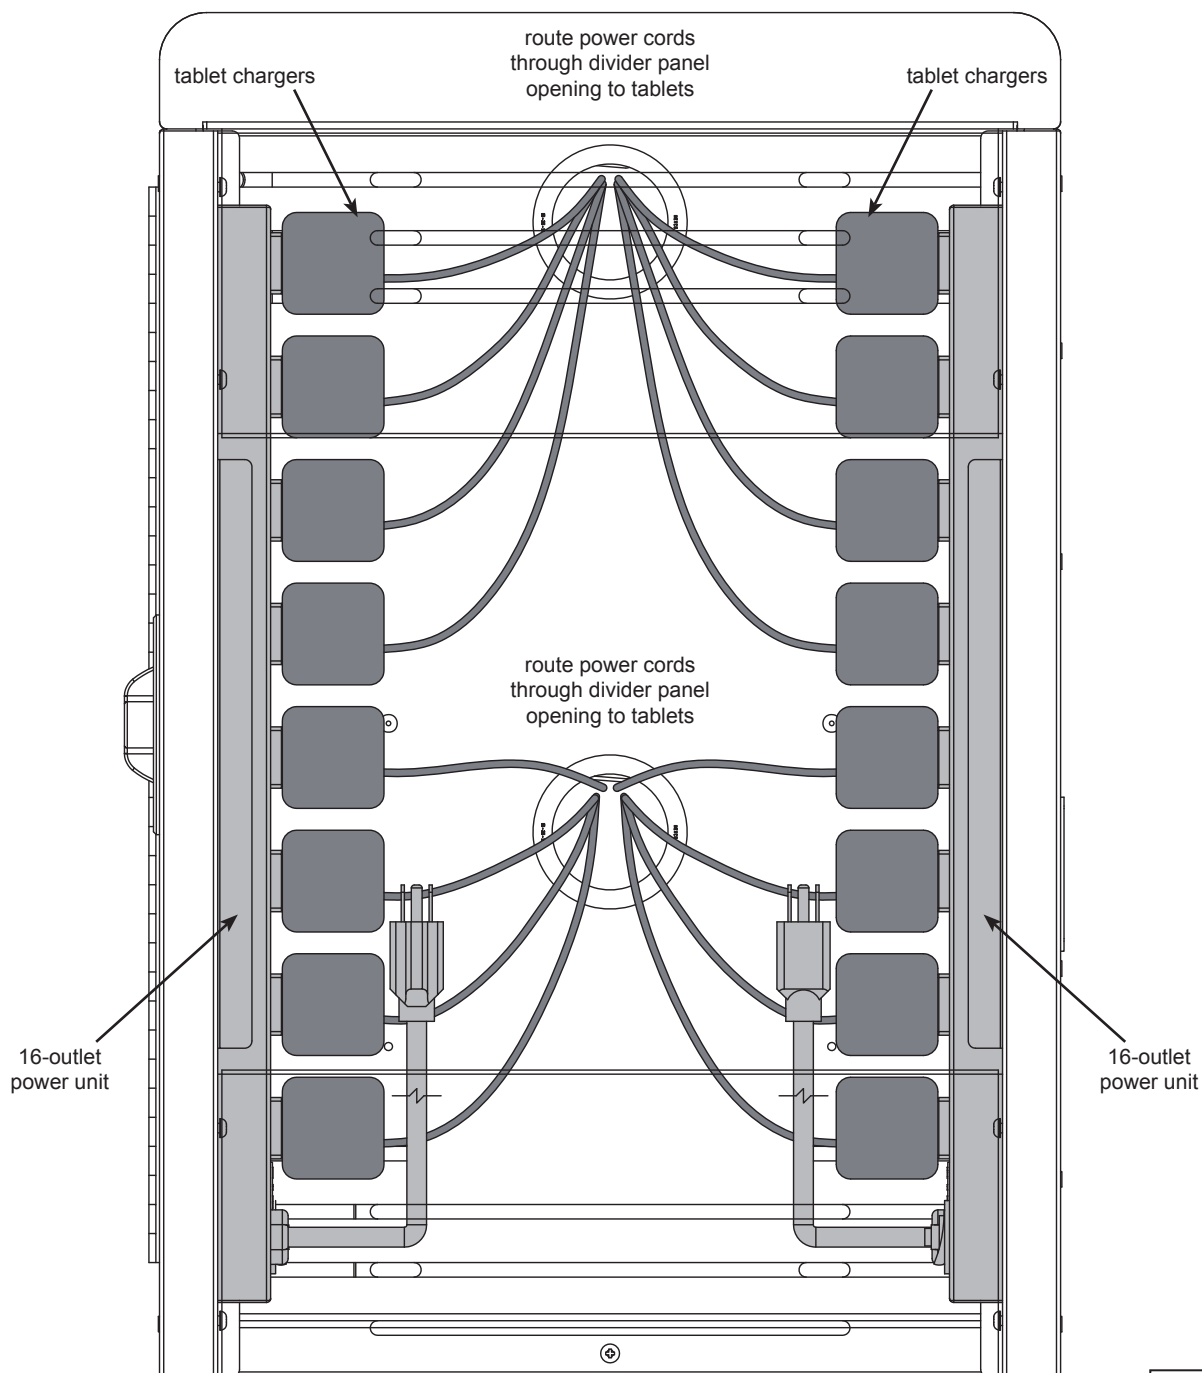

Figure 2B
3. Plug up to 32 tablet chargers into the power units. **Figure 2B.**